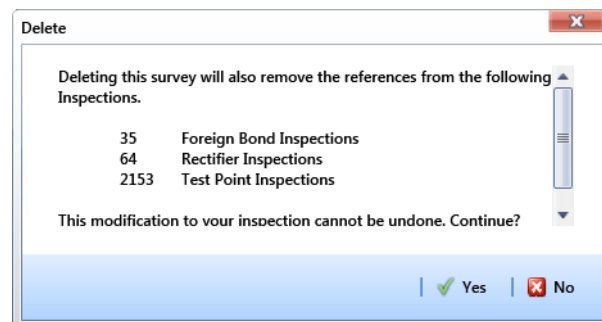

Figure 6-2. Example of Survey Folder Delete Message
Deleting a survey folder typically occurs when you want to clean up data that is no longer needed or when a survey folder has been created accidentally. A message displays listing all facility records assigned to the survey folder allowing you to either cancel the operation or delete the survey folder (Figure 6-2).
- 3 When the *Delete* message displays, click  **Yes** to delete the survey folder or  **No** to cancel the operation (Figure 6-2).